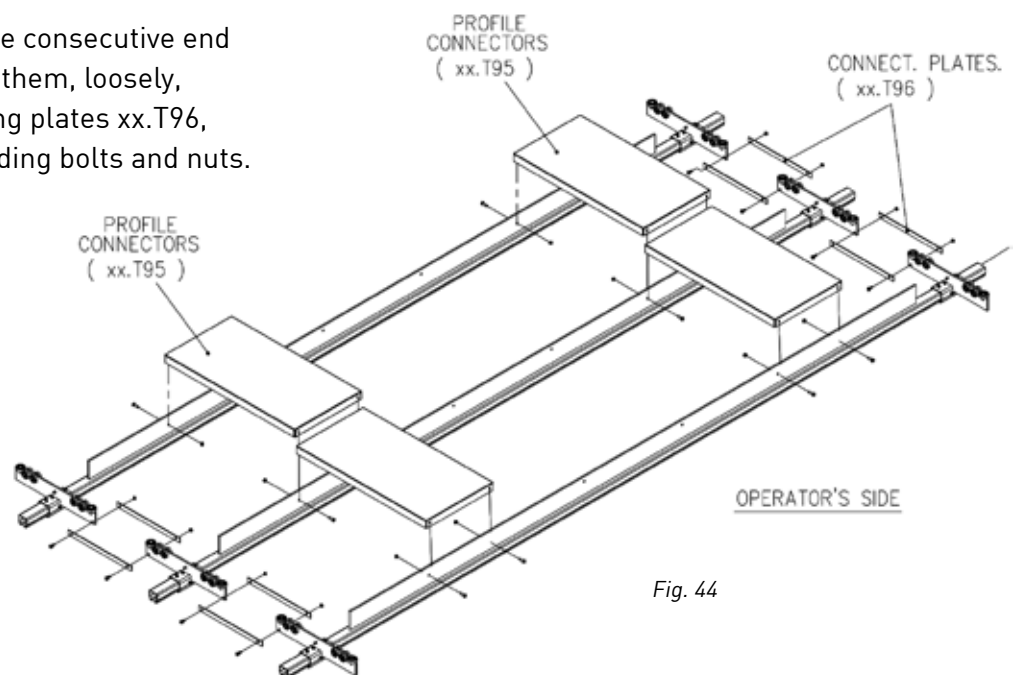

Fig. 44
Step 4 : Align the reinforced bridge profiles and secure the bridge connectors xx.T95 in position, loosely, using the appropriate bolts and nuts. (fig. 44)
Step 5 : Connect the consecutive end carriages between them, loosely, using the connecting plates xx.T96, with the corresponding bolts and nuts. (fig. 44)